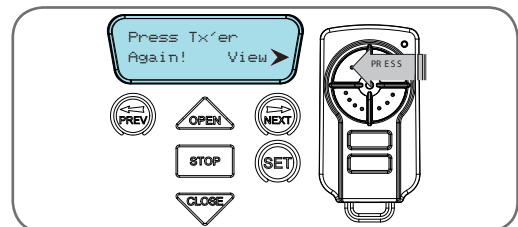

fig 26
3. Press the same transmitter button again as prompted by the display (**Fig. 26**).